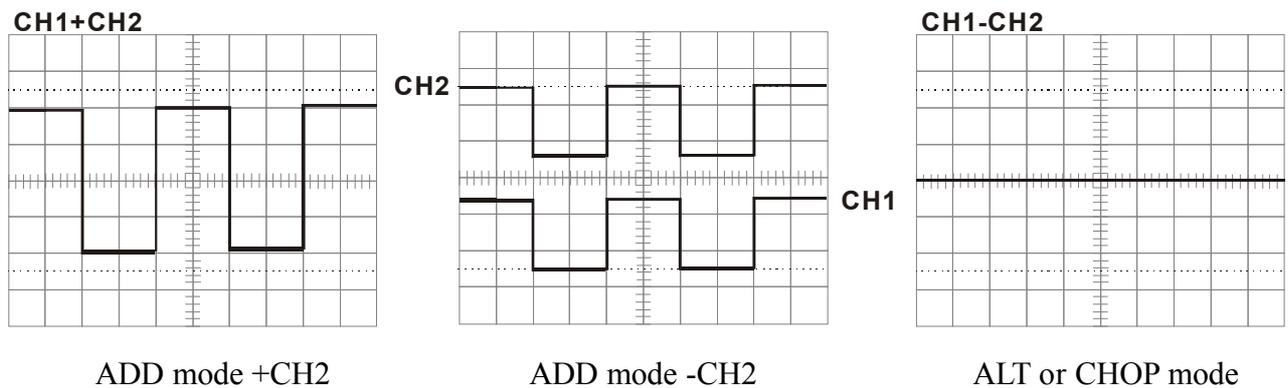

Fig 4-6
- (1) Set Vert Mode at "ALT" or "CHOP" according to the frequency of the signals. Don't pull CH2 INVERT which means CH2 is positive.
- (2) Connect the 2 signals to CH1 and CH2 input terminals.
- (3) Adjust VOLT/DIV let the 2 signals showing waveform at proper range. Adjust vertical position, let the 2 waveforms shown at the center of the screen.
- (4) Set vert mode to "ADD", algebraic summation of 2 signals will be shown immediately. If the difference need to be known, pull CH2 INVERT. Fig 4-6 shows the sum and difference of 2 signals.